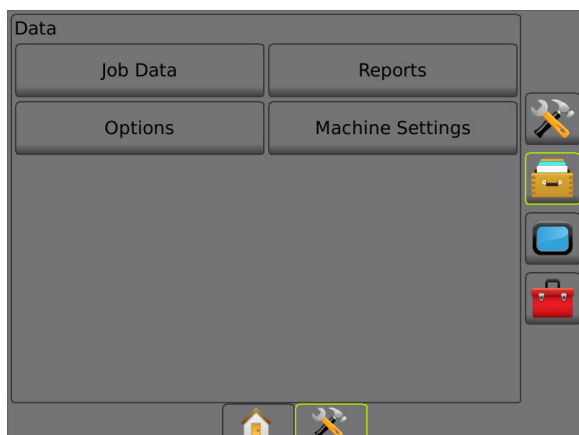

Figure 8 - Data screen
- Press the  button to display the Data screen, Figure 8